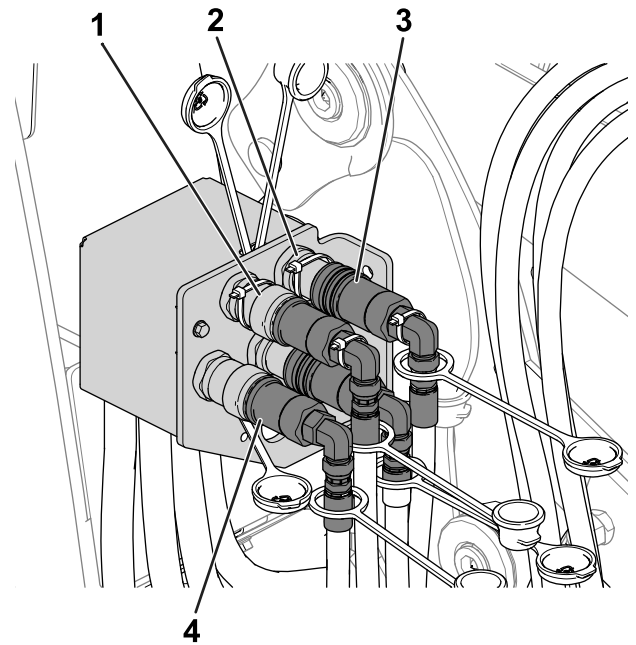

Figure 48
7. Perform the following steps to disconnect the hydraulic couplers (Figure 48):